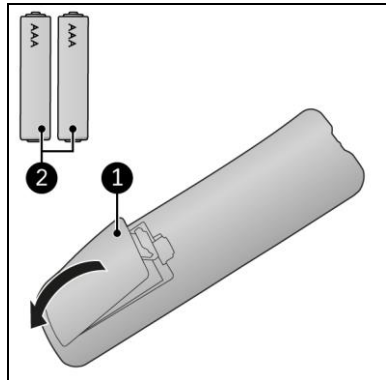

Figure 16
1. Remove the battery cover (Figure 16, pos. 1).
2. Insert two AAA 1.5 V batteries (Figure 16, pos. 2) as indicated in the battery compartment. Make sure to insert the batteries correctly.